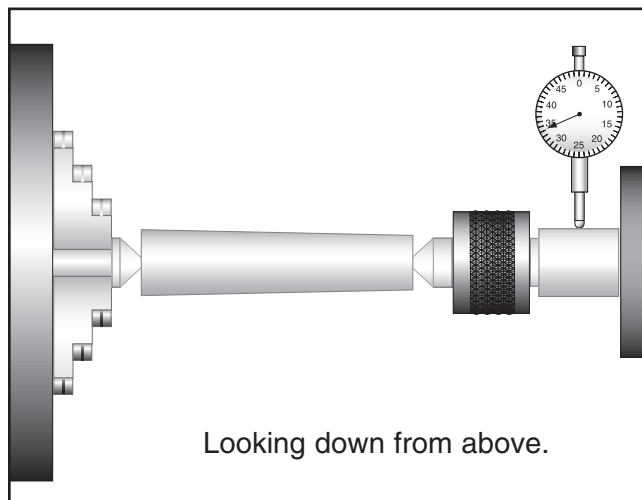

Figure 16. Adjusting for tailstock end taper.
- If the stock is thinner at the tailstock end, the tailstock needs to be moved away from the operator by at least the amount of the taper (Figure 16).